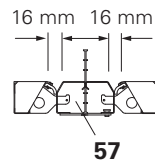

Fig. B6.09
- 1 x Centre Piece MTF (58) (Fig. B6.09)